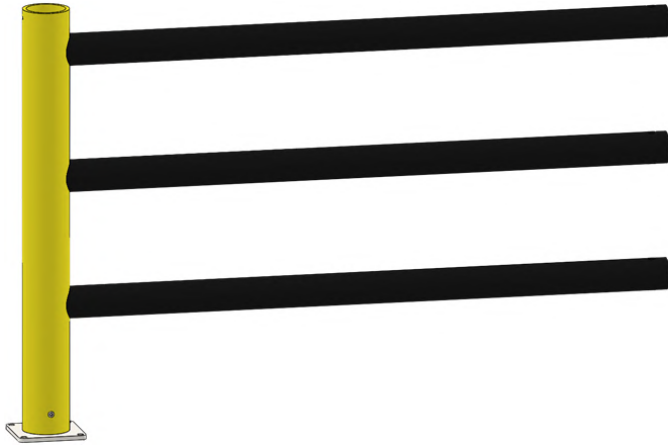
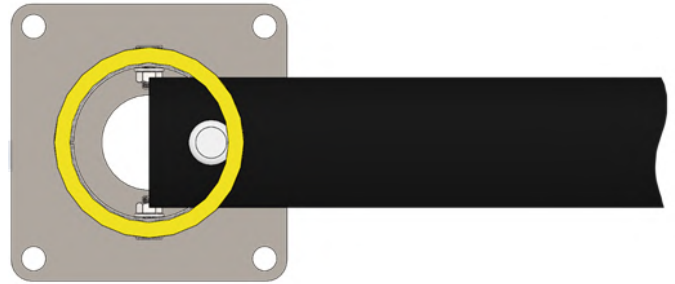

Figure 4. Installation of section pipe into the finite post
Figure 5. The proper arrangement of the section pipe inside the finite post (top view) and its fixation
1. Insert the black section pipe into the finite post (Fig. 4). The axes of the through circular 20 mm holes in the black pipe both here and later on must be placed vertically. The installation of section into the post must be carried out so that the circles of through 20 mm holes in the black pipe of the section are located tangentially to the inner surface of the pipe of the post (shown in Fig. 5). Fix the upper section element inside the finite post with a fixing pipe through a 20 mm hole